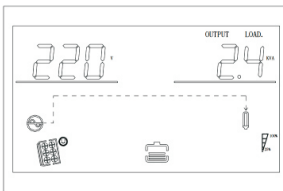

Figure 1-7 Display page 5
**Display page 5:** Output Information shows the output voltage and output power, as shown in Figure 1-7